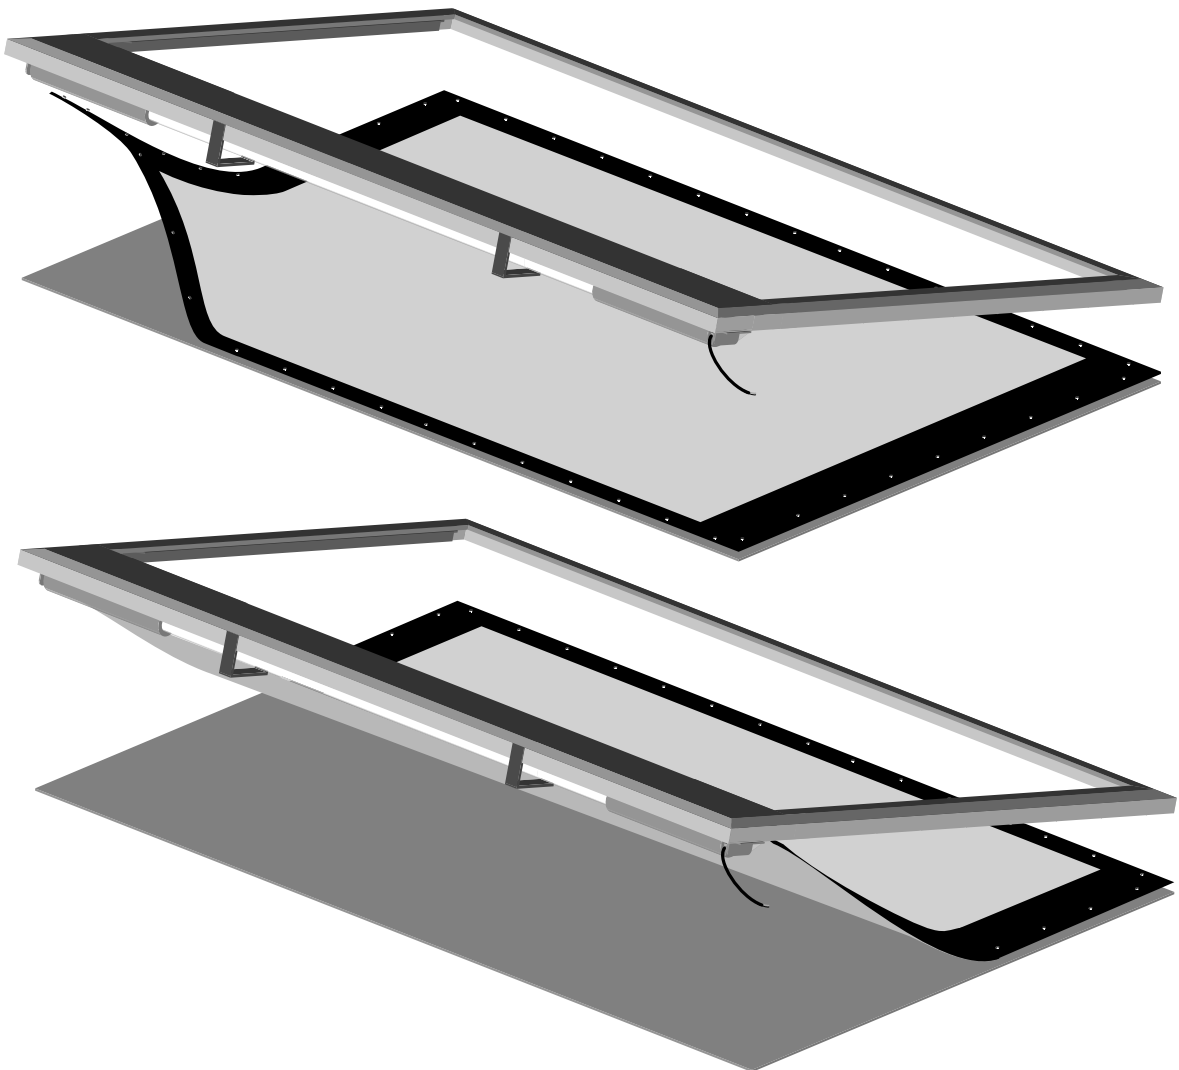

Figure 7: Snapping screen onto frame
2. While lifting the frame with one hand, snap the screen into the frame. Gently allow the screen to stretch onto the snaps. Do not jerk the material, as it can rip. See Figure 7. Attach the snaps on the top corners and top horizontal first, then lift the frame to a vertical position to finish attaching the rest of the snaps.